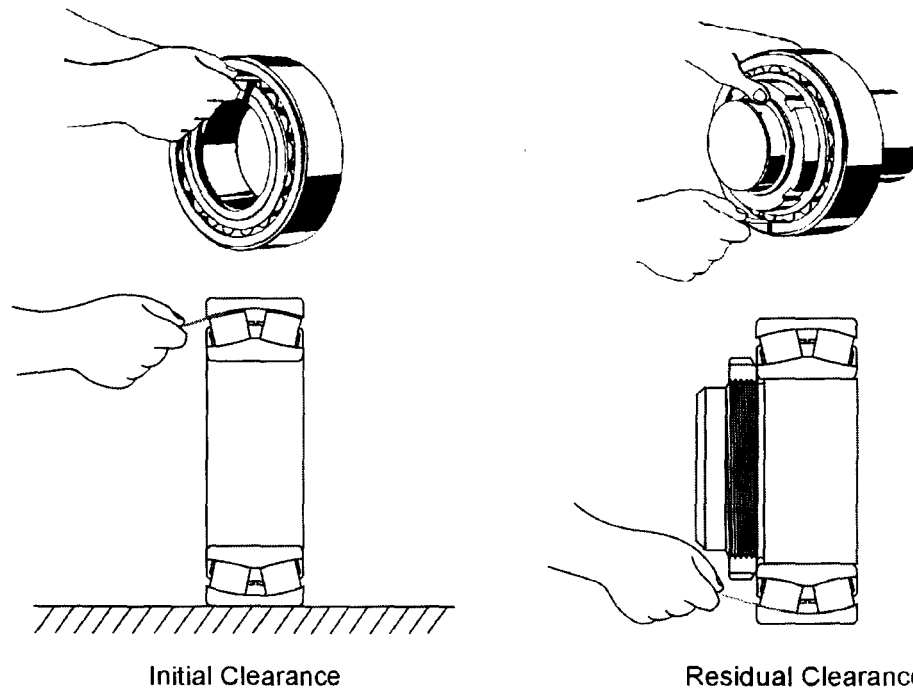

Figure 38 - The internal clearance on a cylindrical bore spherical roller bearing
In Figure 38, you can see that the tightness of the shaft and housing fits determines how much the internal clearance is reduced from its initial clearance before mounting. The reduction in clearance is often used in tables for setting spherical roller bearings although the residual clearance is also listed and should be your final check.
The clearance in a spherical roller bearing is commonly checked with a feeler gauge as shown in Figure 38. The procedure is as follows.
4. Measure initial clearance of the bearing with a feeler gauge. (Figure 38)